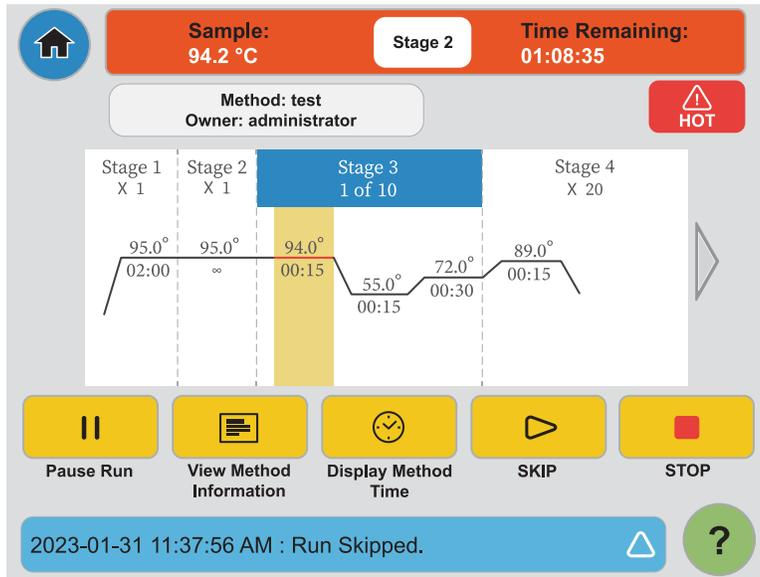

Figure 53 Protocol resumes after skip.
- Ensure that the thermal cycler protocol resumes and the **Time Remaining** display counts down again. (Figure 53.)